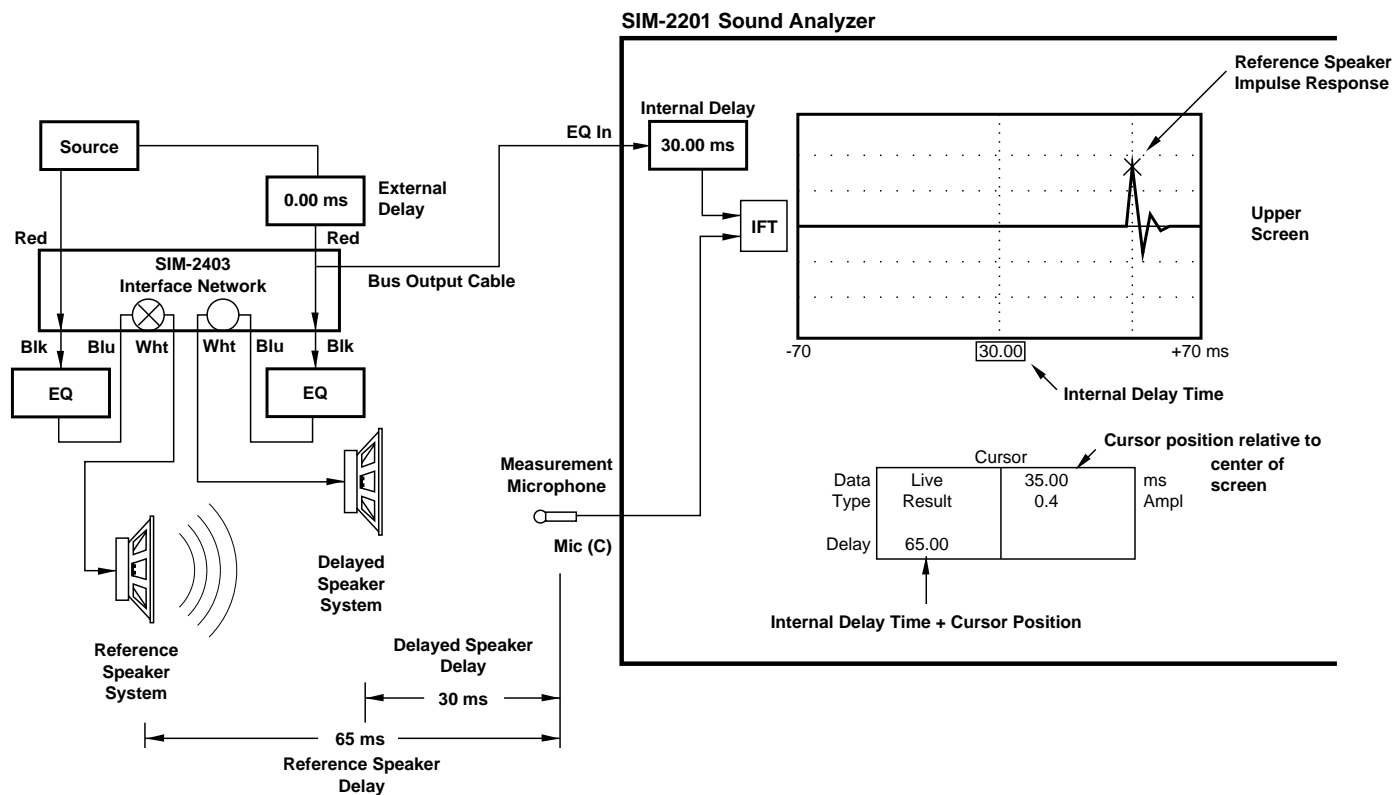

Figure 47c — Setting the External Delay. In External Delay Procedure, Select Reference Speaker.
- 5) Select **Procedure: External Delay**, select **Pre-Eq**, and select the Reference speaker from the Speaker menu. The display should appear as shown in Figure 47c.